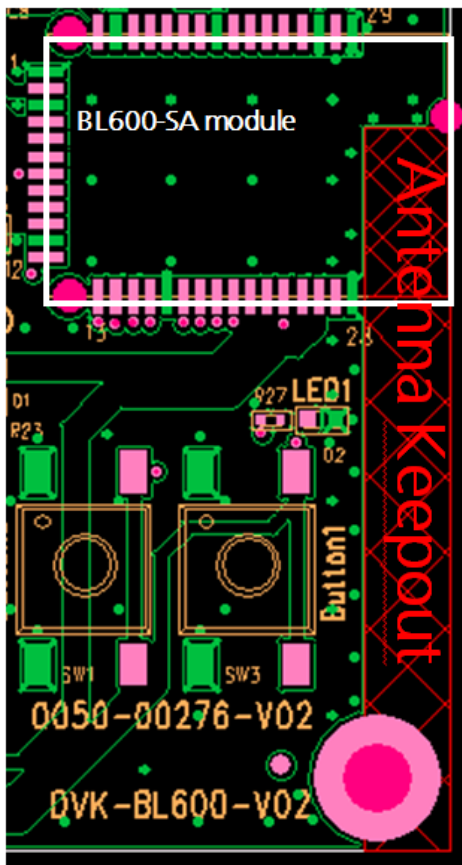

Figure 10: Antenna keep-out area (shown in red), corner of the BL600 development board for BL600-SA module.
- The BL600 development board has the BL600-SA module on the edge of the board (not in the corner). The antenna keep-out area is defined by the BL600 development board which was used for module development and antenna performance evaluation is shown in Figure 10, where the antenna keep-out area is ~4.2 mm wide, 34.2 mm long; with PCB dielectric (no copper) height 1.539 mm sitting under the BL600-SA antenna.
- **Host PCB Land Pattern and Antenna Keep-out** for BL600-SA applies when the BL600-SA is placed in the corner of the host PCB. When BL600-SA cannot be placed as such, it must be placed on the edge of the host PCB and the antenna keep out must be observed. An example is shown in Figure 10.
- Follow the 50-Ohms trace design used on the BL600 development board (PCB stack-up in Figure 10). If this PCB-stack-up is not practical on customer design then design 50-Ohms for differing PCB stack-up.
4. BL600 development board has BL600-SA placed on the edge of the PCB board (and not in corner) for that the Antenna keep out area is extended down to the corner of the development board, see section PCB Layout on Host PCB for BL600-SA, Figure10. This was used for module development and antenna performance evaluation.